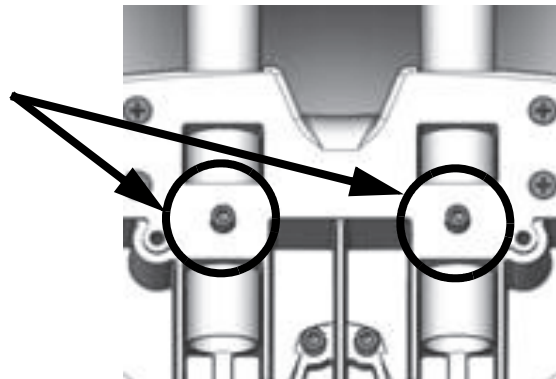

Figure 3-6. Remove Screws to Release the Back Handle Frame
2. Release both of the screws holding the back handle frame (which is marked with circles in Figure 3-6).